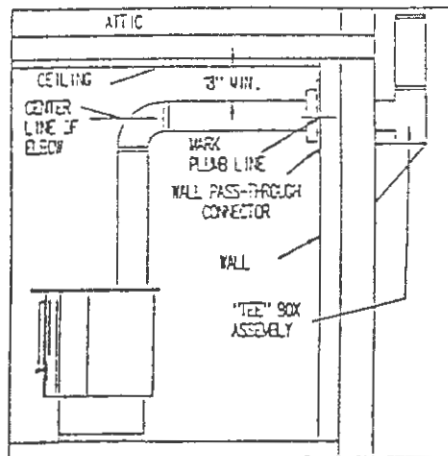

FIGURE 5 Flue Exit into "Tee" box assembly
1. Mark the plumb line on the wall directly behind the center of the heater. (See figure 5).
3. Measure up so there will be at least 1/4" rise per. foot of horizontal connector pipe, maintaining clearances as noted in Figure 5. This will give you the center of the hole for the chimney penetration.
6. Using the screws and pipe mounting clips provided in the free-standing kit, secure the pipe to the heater. (See Figure 5)